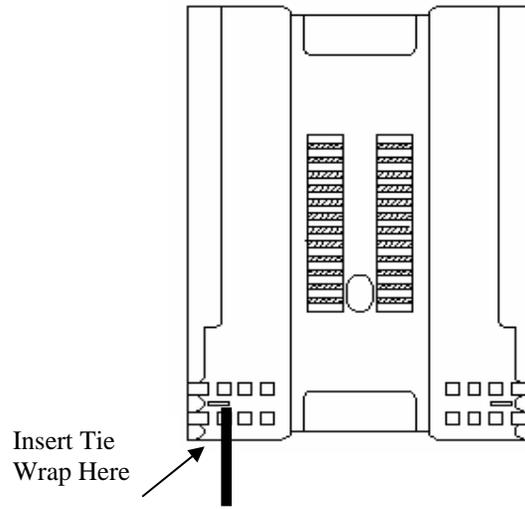

Figure 8 – Tie Wrap Installation
Step 7 - Insert a tie wrap into the first set of retentions slot closest to the entry point of the splice tray (See Figure 8 below). Cinch the tie wrap down around the OFCC group and Kevlar until snug and cut off the excess tie wrap.